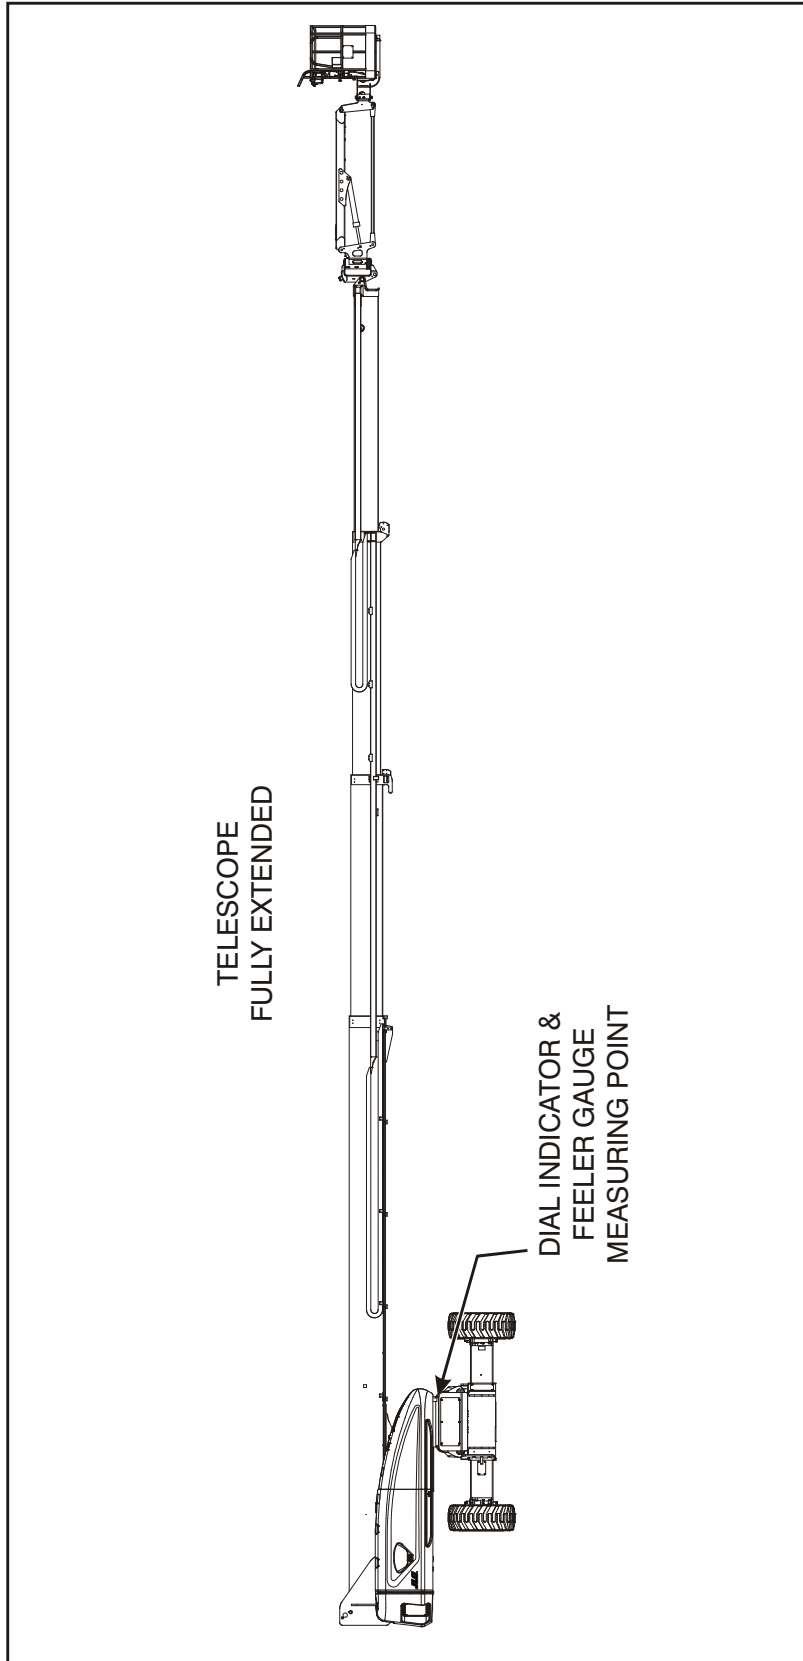

Figure 3-55. Swing Bearing Tolerance Boom Placement - Sheet 2 of 2
- d. At the position indicated on Figure 3-55., try and insert the 0.0015" feeler gauge between the bolt head and hardened washer at the arrow indicated position.
2. Next, position the main boom fully extended and horizontal as shown in Figure 3-55., Swing Bearing Tolerance Boom Placement - Sheet 2 of 2. Read the measurement recorded on the dial indicator gauge.